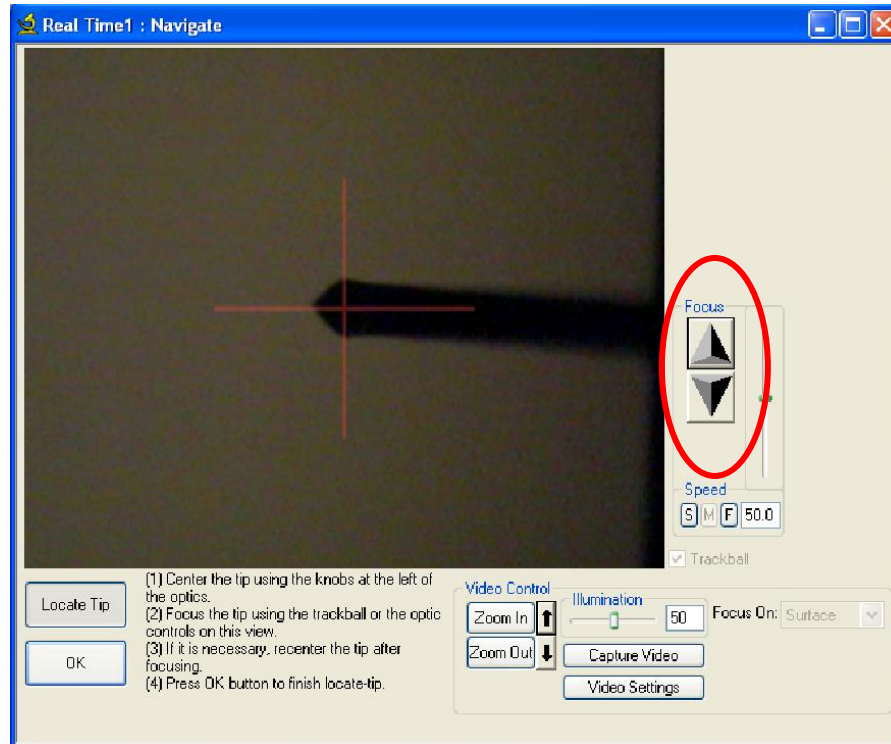

Figure 10 Navigate Window: Locate Tip, cross hairs properly aligned
- Align cross hairs to the points of the tip by turning the adjustment screws on the camera, left of the head. Adjust focus as you zoom, and realign cross hairs if necessary. (see Fig. 10)